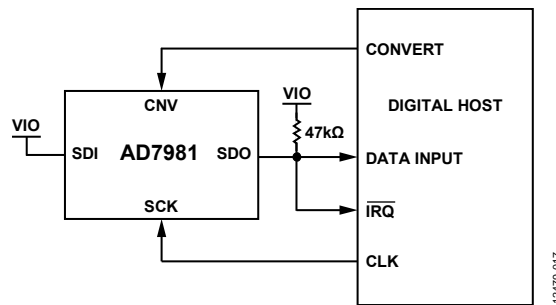
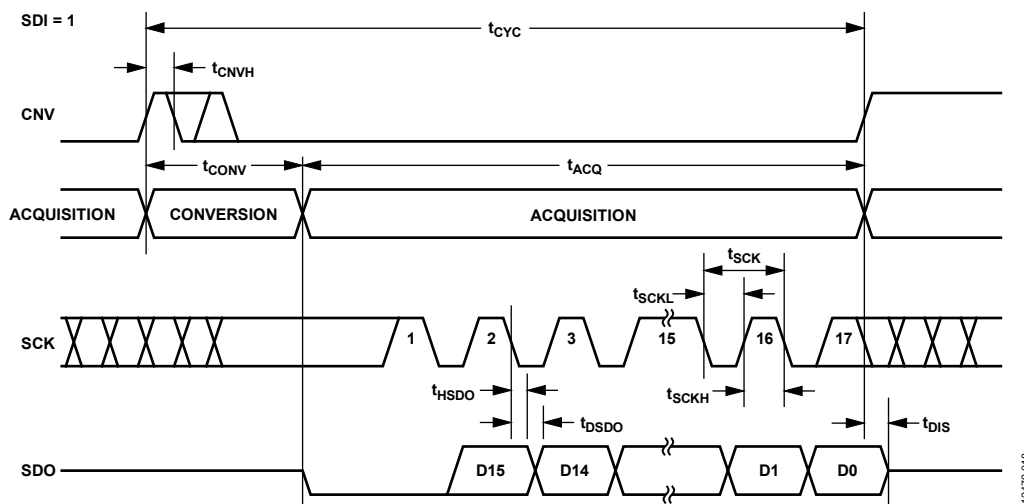
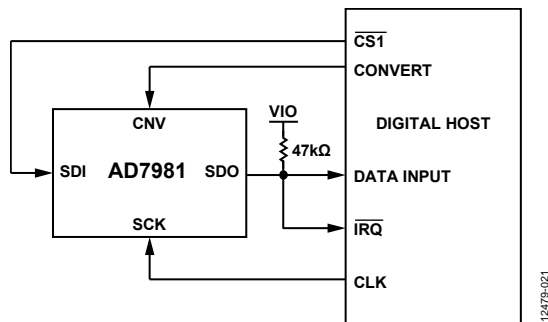
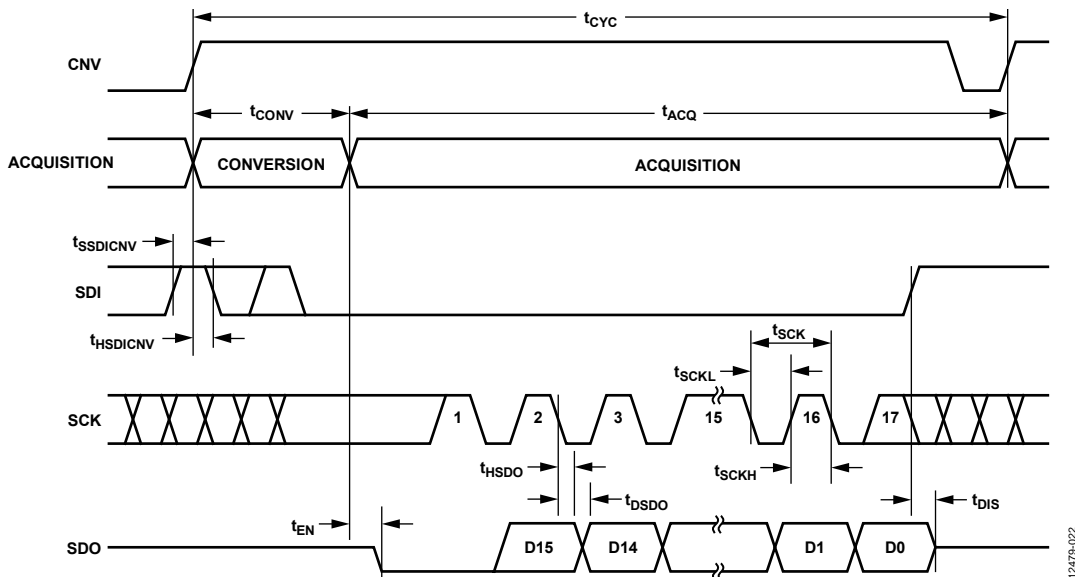

Figure 44. 3-Wire \overline{CS} Mode with Busy Indicator Connection Diagram (SDI High)
Figure 45. 3-Wire \overline{CS} Mode with Busy Indicator Serial Interface Timing (SDI High)
Figure 48. 4-Wire $\overline{\text{CS}}$ Mode with Busy Indicator Connection Diagram
Figure 49. 4-Wire $\overline{\text{CS}}$ Mode with Busy Indicator Serial Interface Timing
- In $\overline{\text{CS}}$ mode if CNV or SDI is low when the ADC conversion ends (see Figure 45 and Figure 49, respectively).
The 3-wire \overline{CS} mode with a busy indicator is typically used when a single AD7981 is connected to an SPI-compatible digital host having an interrupt input. The connection diagram is shown in Figure 44, and the corresponding timing is given in Figure 45.
The connection diagram is shown in Figure 48, and the corresponding timing is given in Figure 49.